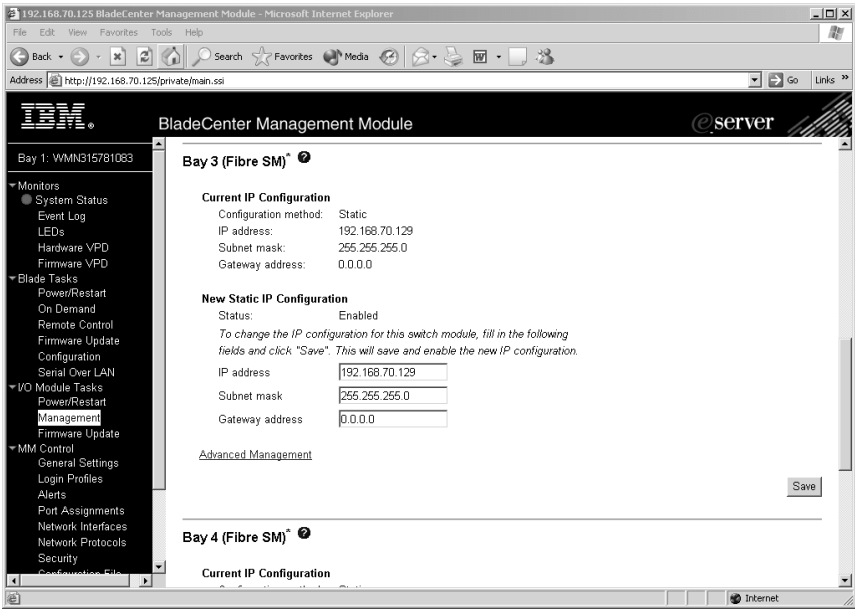

Figure 16. I/O Module Management window showing switch module 3 example
5. Click the link for either switch module 3 or switch module 4. A window similar to the one in Figure 16 opens.